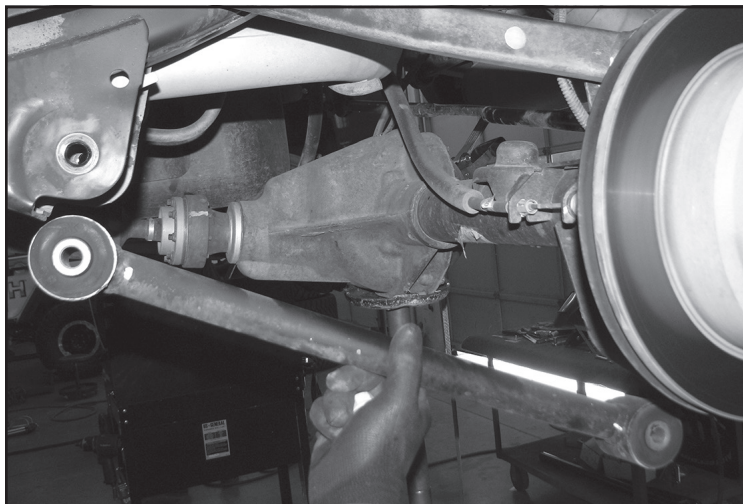

FIGURE 4 - STEP 8
8. With the axle supported, remove the driver side lower link and save hardware. **SEE FIGURE 4**